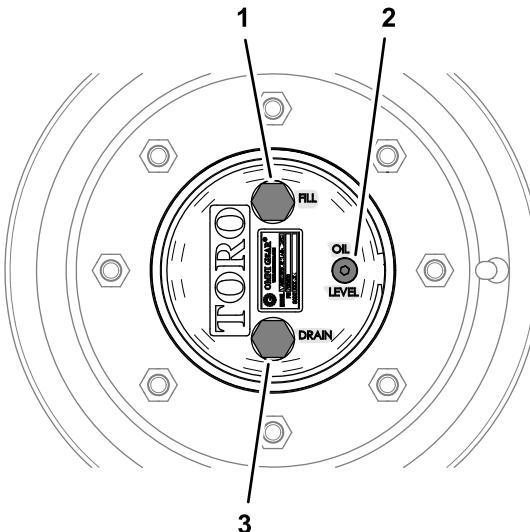

Figure 96
1. With the machine on a level surface, position a wheel so that the fill plug is at the highest (12 o'clock) position and the drain plug is at the lowest (6 o'clock) position (Figure 96).
1. With the machine on a level surface, position a wheel so that the fill plug is at the highest (12 o'clock) position and the drain plug is at the lowest (6 o'clock) position; refer to Figure 96 in **Checking the Planetary-Gear-Drive Lubricant** (page 69).